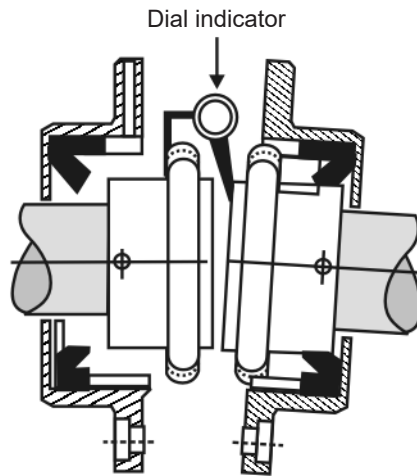

Figure 10: Angular alignment
**Angular alignment:** Fasten a dial indicator to one of the coupling halves, and scribe the position of the dial button on the face of the opposite coupling half as shown in Figure 10. Rotate both shafts simultaneously, keeping the finger or button on the indicator at the reference mark on the coupling hub. Note the reading on the indicator dial at each one quarter revolution.